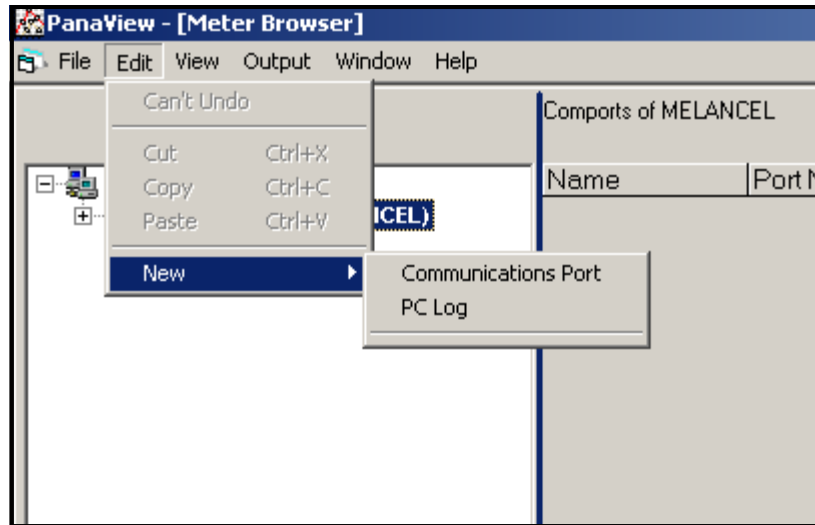

Figure 17: The Edit Menu
3. Click on the "New" menu option to select it, and a submenu opens with two choices on it (see Figure 17 below).